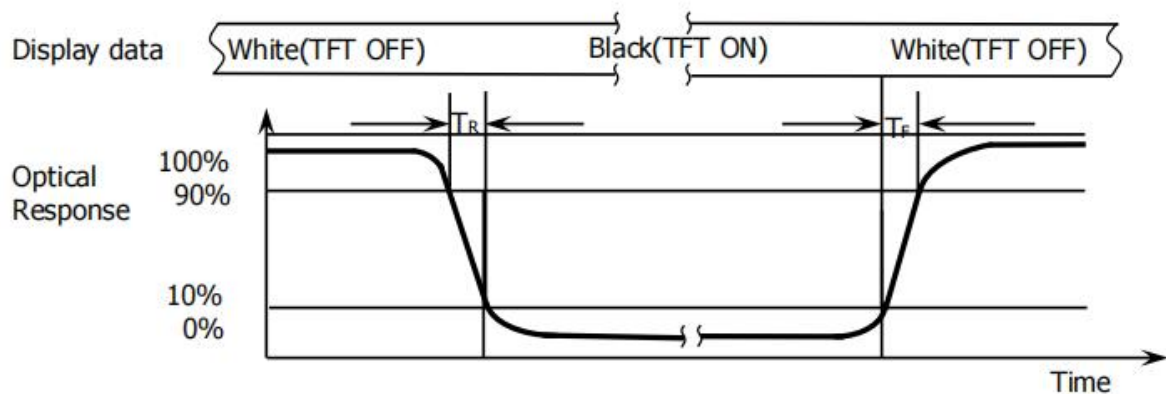

Figure 10. Response Time Testing
- The electro-optical response time measurements shall be made as Figure 10 by switching the “data” input signal ON and OFF. The times needed for the luminance to change from 10% to 90% is T_r , and 90% to 10% is T_f .
The electro-optical response time measurements shall be made as shown in Figure 10 by switching the “data” input signal ON and OFF. T_r : The luminance to change from 10% to 90% , T_f : The luminance to change from 90% to 10% .